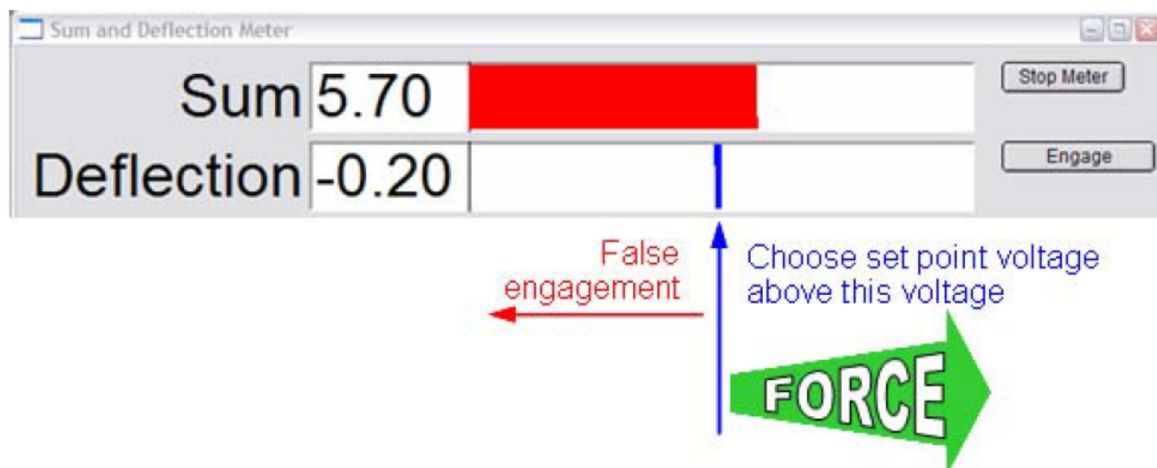

Figure 10.2.: SUM and Deflection Window
3. Choose a setpoint voltage that is more positive than the free air deflection value in the Sum and Deflection (S&D) meter. In Figure 10.2 on page 130, the free air deflection is -0.20 V; therefore a setpoint voltage of -0.19V or more is needed to engage the tip. Setpoint voltages